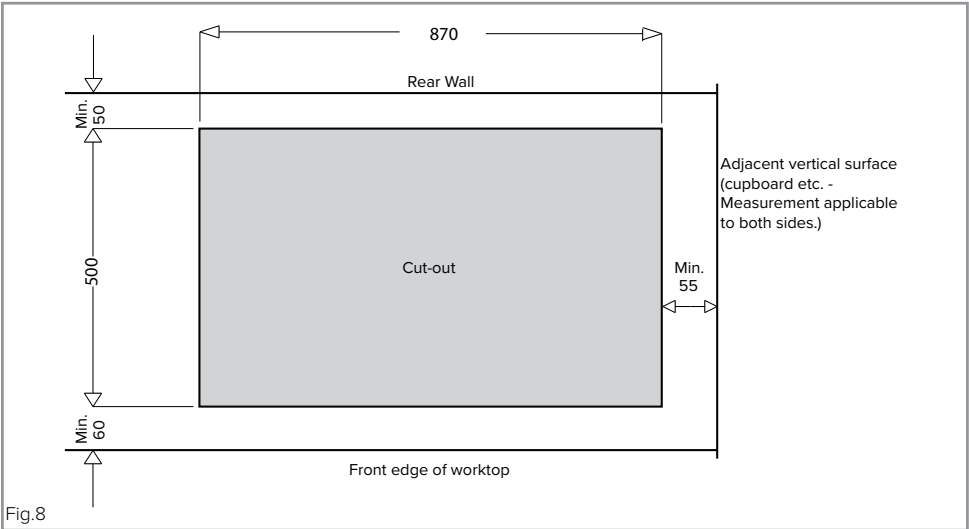

Fig.8
This appliance must be installed a minimum of 50mm from any back wall and a minimum of 55mm away from any adjacent vertical surfaces, e.g. a tall cupboard end panel. This may be reduced to 50mm if the adjacent surface is resistant to fire (tiles or steel for example). These dimensions are shown in Fig.8 on page 28.
1. Make the required hole in the worktop. Before doing this, you must check the instructions supplied with any cooker hood to ensure that you will have the required clearance. The cut-out (Fig.8) shows a 60mm gap from the worktop edge to the cut-out edge. The distance from the hob, when fitted, to the back wall is to be 50mm.